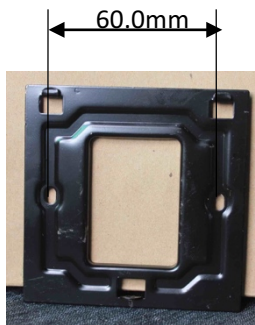

Figure 1
4. Need tools one slotted screwdriver and one cross word screwdriver like Figure 1.